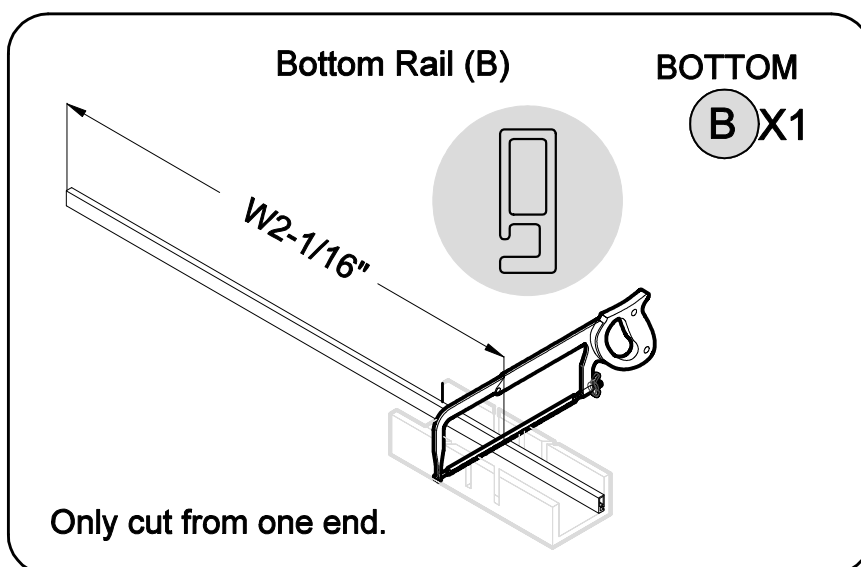

Fig 2
2. Insert the **Inside Door Panel (C)** into the **Bottom Guide (A)** as Fig 2.